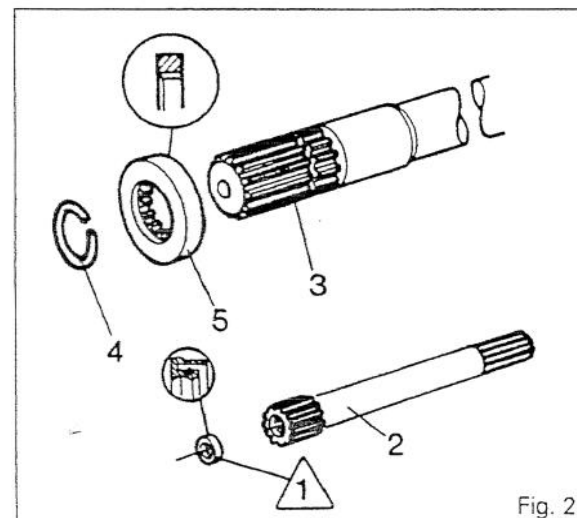

Fig. 2
14. Replace the seal /1\ on the input shaft (2) (Fig.2).
- a) withdraw the PTO shaft (3).
- d) remove the circlip (4) and the washer (5).
- e) protect the splined end of the shaft (3).
- h) refit the washer (5) and the circlip (4).